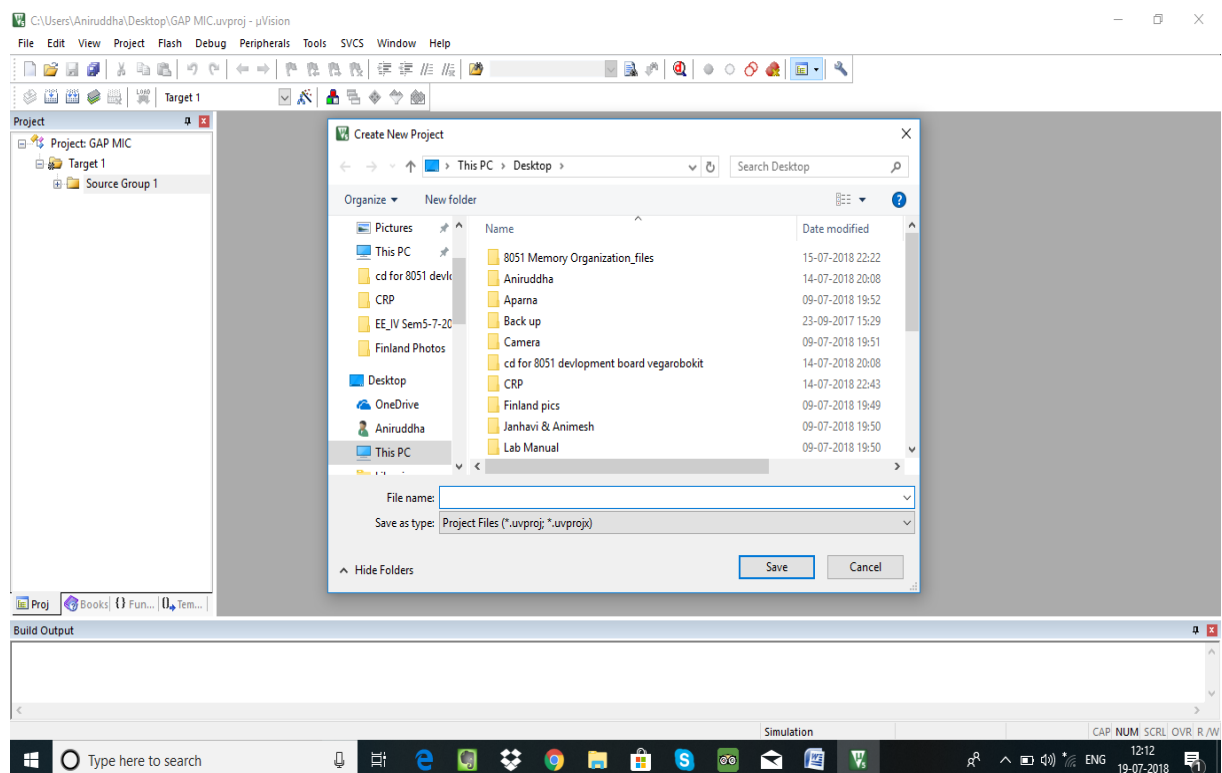

Figure. 4
3. Select appropriate location for new project and type project name, click on save button. Fig.4